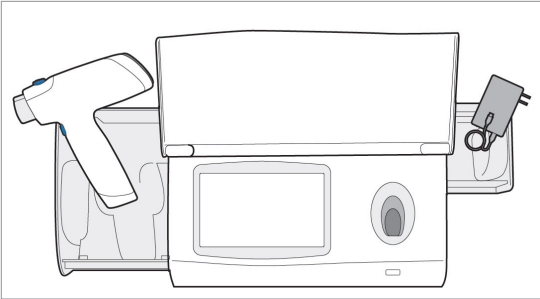

Figure 67 Store Handset and Power Supply
- e. Place both the Power Supply and Handset inside the Base Station drawers (see Figure 67).